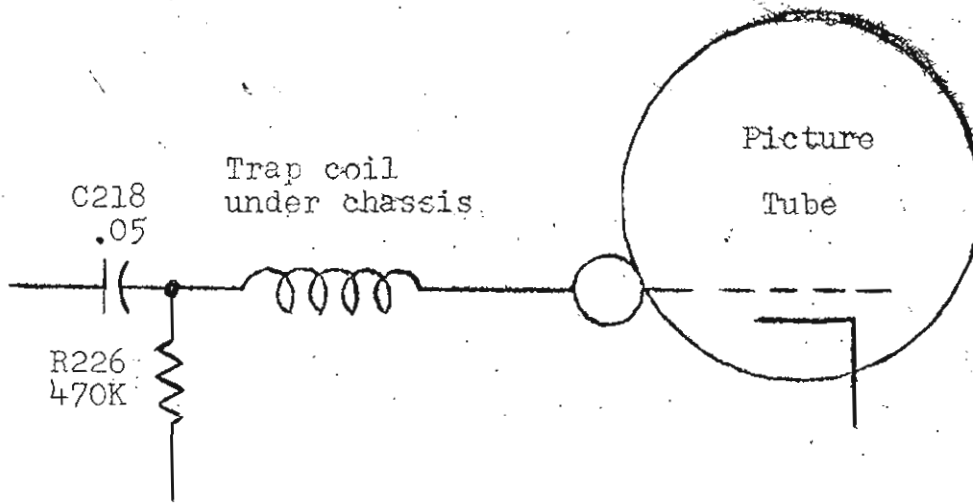

Figure 3
- d. Remove R216 (8.2K), R336 (27K), and R337 (12K.) Add a 6.8K $\frac{1}{2}$ watt resistor as shown in Fig. 3.
3. Insert a resonant trap coil in series with the CRT grid lead as shown in Figure 3.